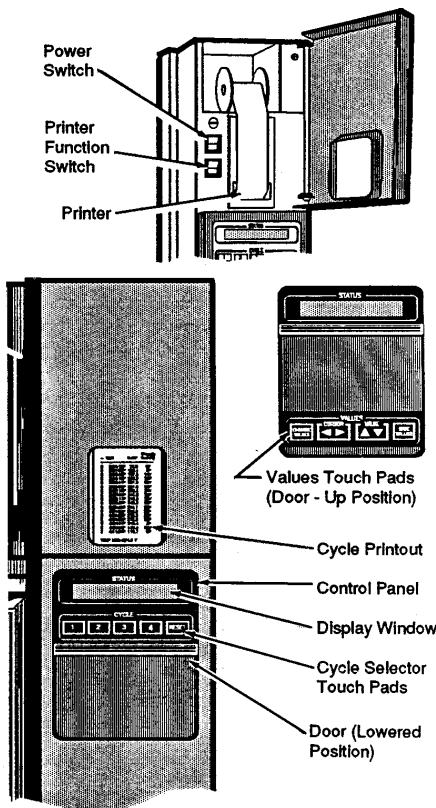

Figure 4-3. Turn Power On
4.3 Automatic Operation: Liquids Cycle (See Figure 4-3)